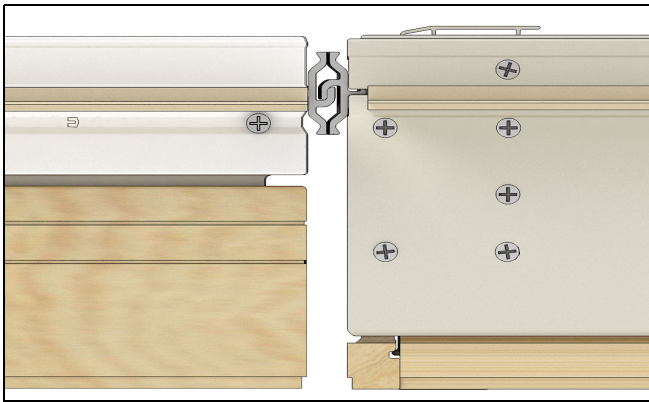

Figure 5
5. Snap the frames together by interlocking the mull pins. Ensure that the pins are seated correctly and the interior unit faces are flush. See Figure 5.